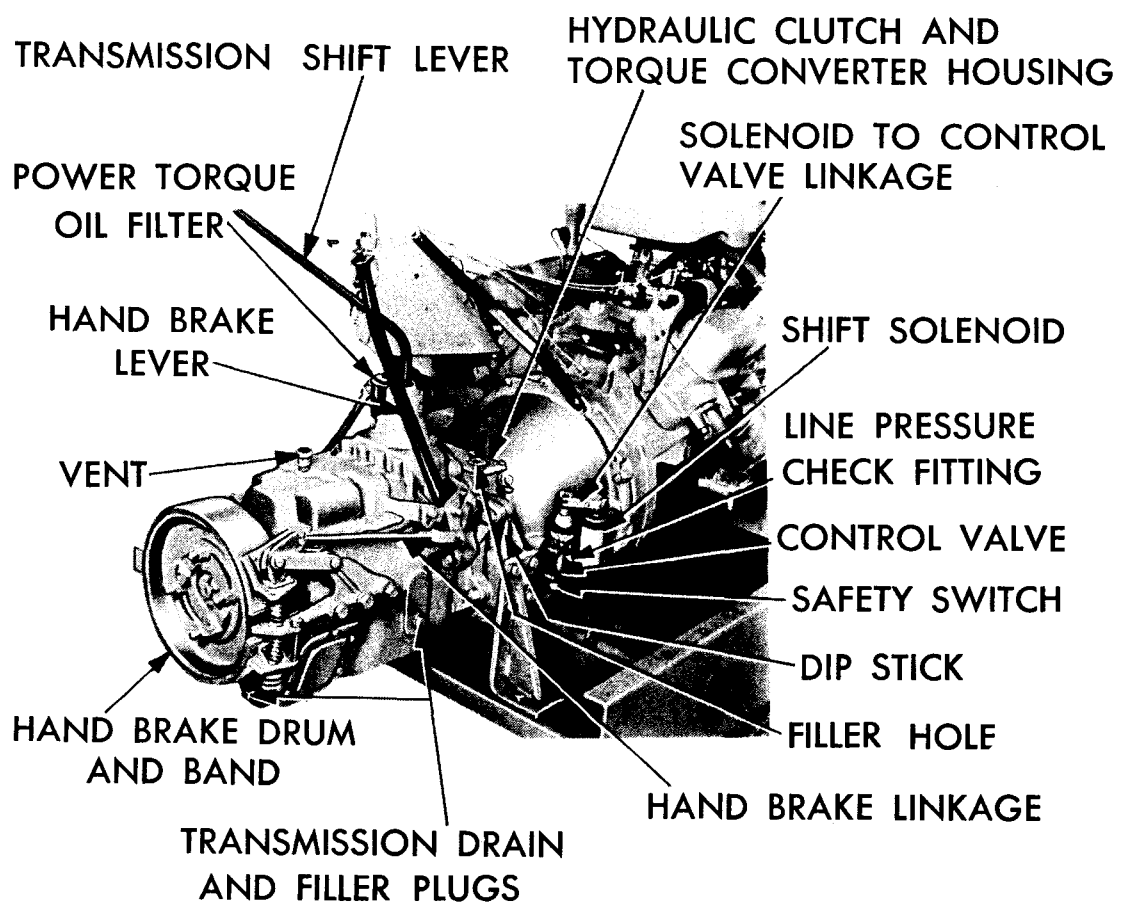

Figure 50 — Transmission Adaptation with Power Torque 62 x 767
- (1) An in-line PTO.
- (2) A right angle PTO.
- (3) Several transmission adaptations (Fig. 50) covering tower and remote shift manual transmissions.